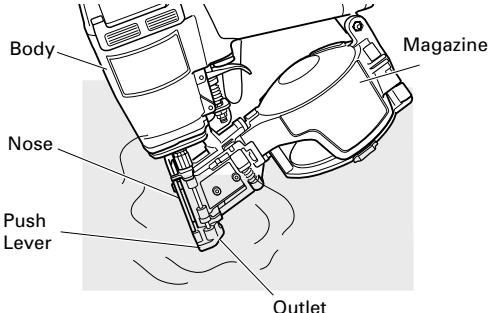

Fig. 15
(1) Please immerse only the area around the discharge outlet in solvent and do not immerse the cylinder or magazine.(See Fig. 15)